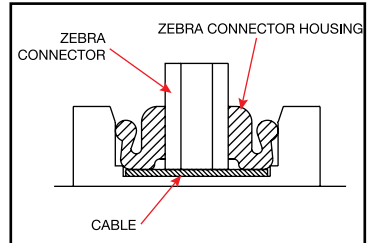

Figure 14 - Zebra Assembly
3. Place the Zebra connector and connector housing over the generator cable, and press it into the recess. The hole in the Zebra connector housing must be positioned over the post in the dial ring. Be sure the black Zebra connector housing is positioned as shown in Figure 14.